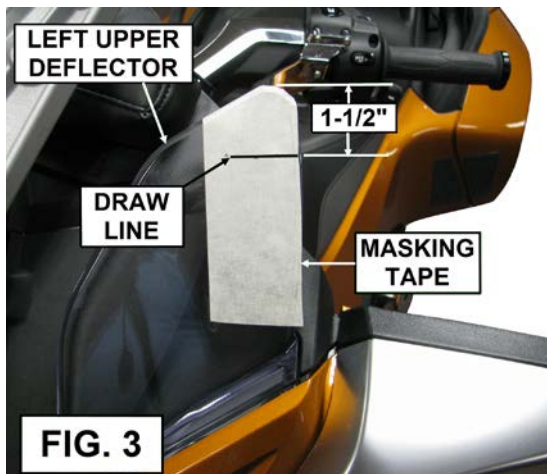

FIG. 3
- PLACE A PIECE OF MASKING TAPE ABOUT 4 INCHES LONG ON THE FRONT OF THE LEFT UPPER OEM WIND DEFLECTOR AS SHOWN IN FIG. 3.
- USING A PENCIL OR PEN MAKE A LINE 1-1/2" DOWN FROM THE TOP OF THE OEM WIND DEFLECTOR AS SHOWN IN FIG. 3.